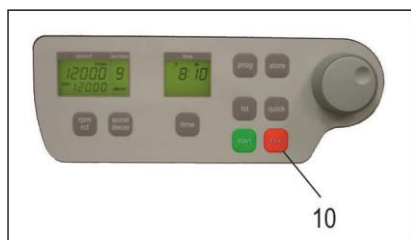

Figure 26
With the "stop" key (10), the run time can be interrupted, at any time, (see Figure 26). After pressing the key, the centrifuge decelerates with the respective pre-selected intensity, down to a standstill.
At the right side of the centrifuge, there is a plastic stopper, (Figure 26). Remove this stopper, which is connected to the lid lock, horizontally from the housing until the centrifuge lid opens.